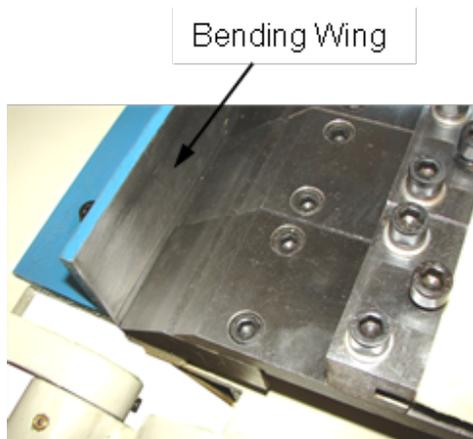

Figure:7-1
2. Lift up on the bending leaf until the bending wing is perpendicular to the fingers as in (fig. 7-1). Set the stop collar to hold the leaf in this position. The bending wing will now serve as a straightedge to help line up the fingers.